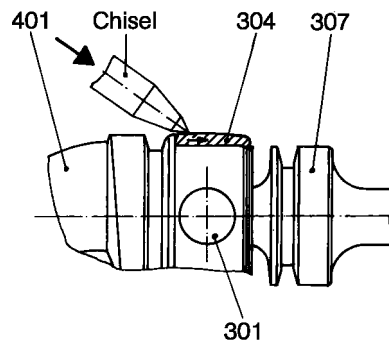

Figure 3: Dismounting the retaining sleeve.
- By means of a screw driver, lift cover sleeve (308) and withdraw axially towards the coupling rod (307).
- Drive retaining sleeve (304) over the collar of the coupling rod (307). In doing so, do not deflect coupling rod (307) (please refer to Figure 3 below).